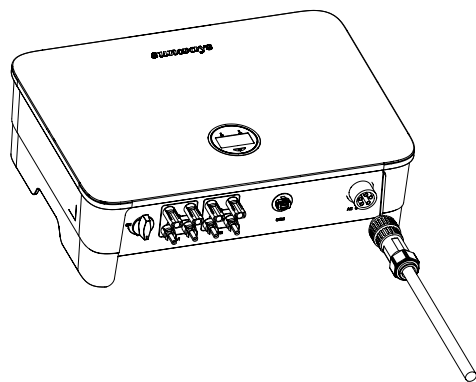

Figure 4-19 Connect the AC connector
2. Connect the AC connector to the inverter AC terminal, and rotate the AC connector buckle clockwise until its tight enough. As shown in figure 4-19: